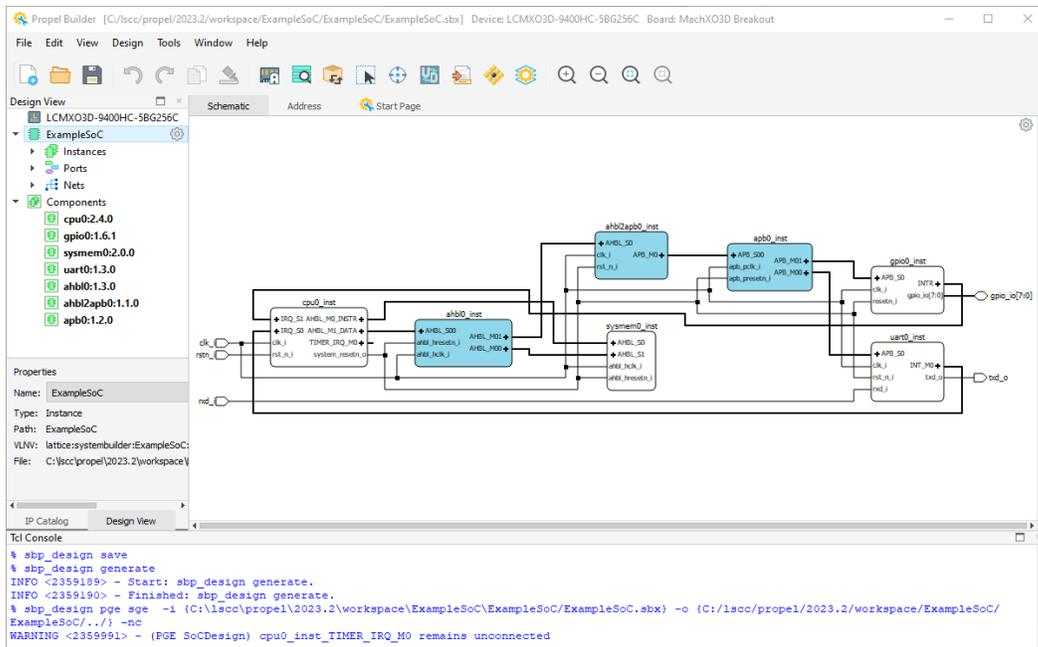

Figure 3.11. Propel Builder Window
The SoC design project is created in workbench, and its design is opened and displayed in Lattice Propel Builder (Figure 3.11).
3. The SoC Design is opened and displayed in Propel Builder (Figure 3.11).